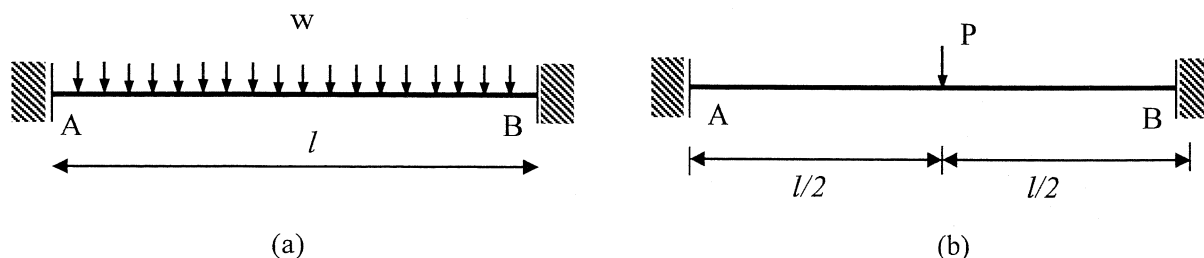

Figure Q2: Fixed supported beam with: (a) a uniformly distributed load; (b) central point load
- (ii) Consider a beam fixed at both ends as shown in Figure Q2(a). Flexural rigidity of the beam is EI .
- Determine the collapse load (w_{ult}) of the beam shown in Figure Q2(a) using the virtual work approach. You can consider that plastic moment of the beam as M_p . (4 Marks)
- If the uniformly distributed load is removed and a point load (P) is applied as shown in Figure Q2(b), determine the collapse load (P_{ult}) using the virtual work approach. (4 Marks)